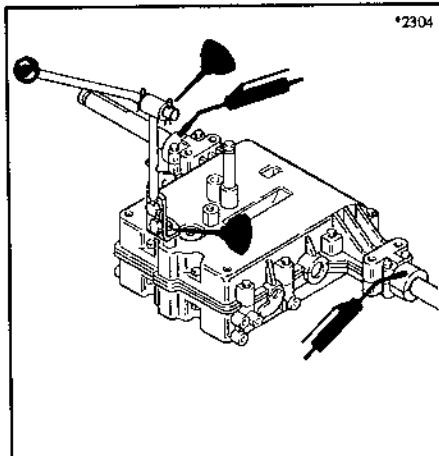

Figure 9. Shift Lever Lubrication
Check the seat switch (A, figure 9) every fall and spring with the following three tests. Make sure the wiring harness (B) is securely plugged into the switch.
Lubricate the tractor as shown in figures 9 thru 12. When a grease gun is shown, wipe the fitting clean, apply two or three shots of lithium base automotive grease, and wipe off excess grease. When an oil can is shown, wipe the area clean, apply a few drops of oil (SAE 30), then wipe up drips or spills.